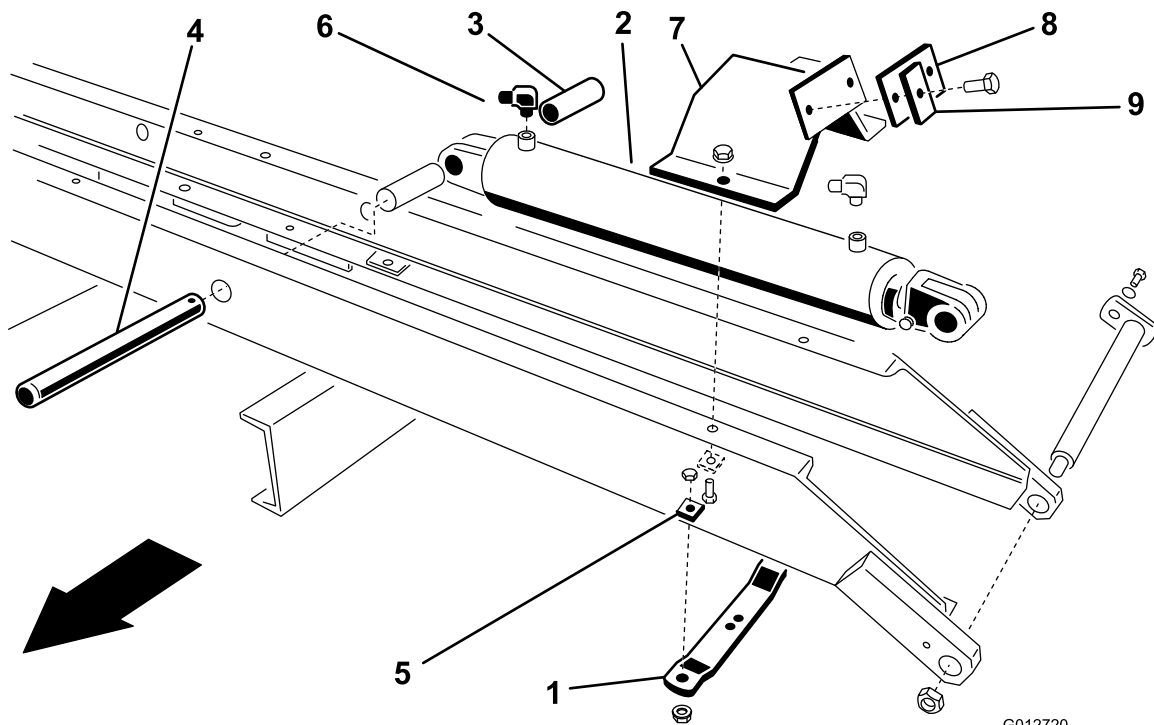

Figure 5
1. Mount a cylinder rest to the underside of the front cross channel with 2 bolts (1/2 x 1-1/2 inch), tapered washers, and locknuts as shown in Figure 5.
2. Mount the butt cap end of the hydraulic cylinder to the front cross channels with a cylinder shaft, 2 tube spacers, and 2 cotter pins (3/16 x 1-3/4 inch) as shown in Figure 5.
3. Mount an arm stop to the top of the front cross channel with 2 bolts (1/2 x 1-1/2 inch), tapered washers, and locknuts as shown in Figure 5.
4. Mount a bumper pad and 2 bumper washers to the arm stop with 2 bolts (3/16 x 1-1/4 inch) as shown in Figure 5.